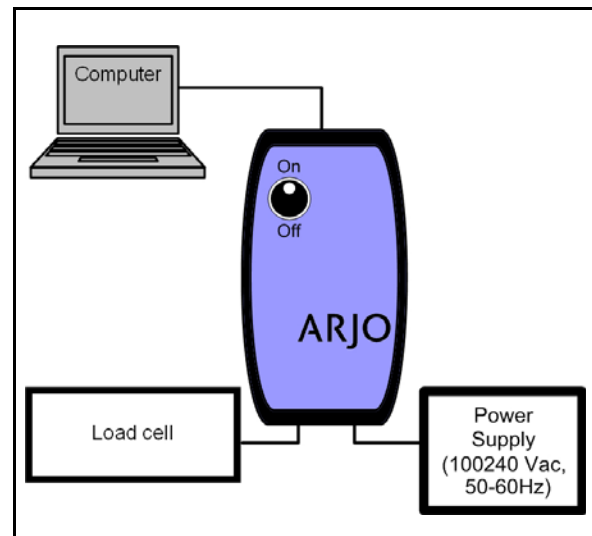

Fig.11
- 3) Disconnect the load cell from the floor lift and connect it directly to the tool kit (see Fig.11 and Fig.12.)